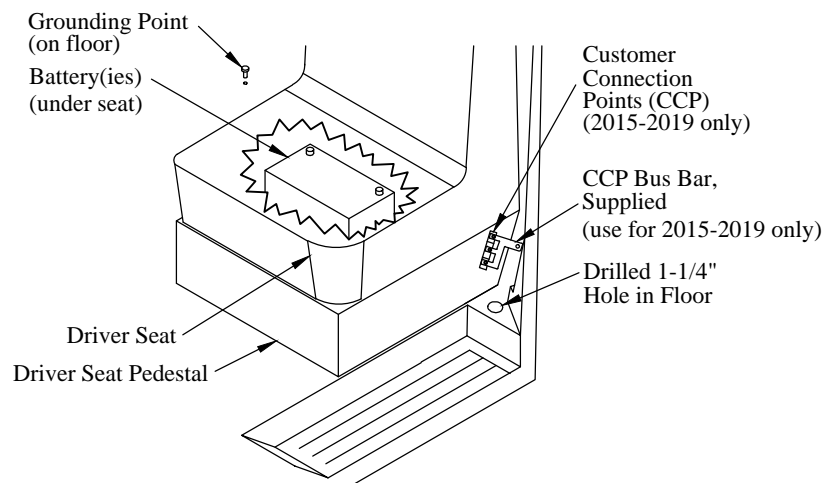

Figure 11: Power connection locations.
3. **Drill** and **Deburr** a 1-1/4" hole in the floor next to the driver seat in the location shown (Figure 11).
4. **Route** the power cables under the vehicle from the liftgate, along the frame, to a location under the driver door (Figure 11).
9. **Cut** the negative(-) lead to the length required to reach a vehicle ground point on the floor between the front seats (Figure 11).
- 11. **Connect** the negative(-) lead to a vehicle ground point on the floor between the front seats. (Figure 11).
- 18. **Remove** the plastic cover from the CCP on the driver seat pedestal (Figure 11).
- 19. **Install** the supplied bus bar on the CCP studs using three (3) supplied M5 nuts and star washers.